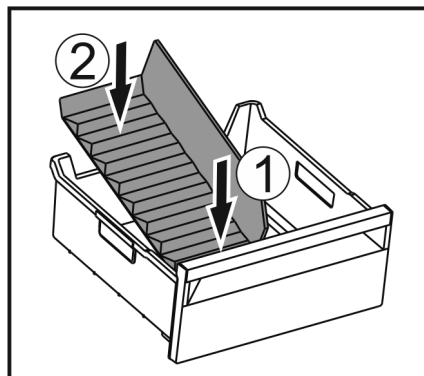

Fig. 187
- ▶ Insert the front part of the ice compartment divider. Fig. 187 (1)
- ▶ Lower the rear part of the ice compartment divider to the drawer bottom. Fig. 187 (2)